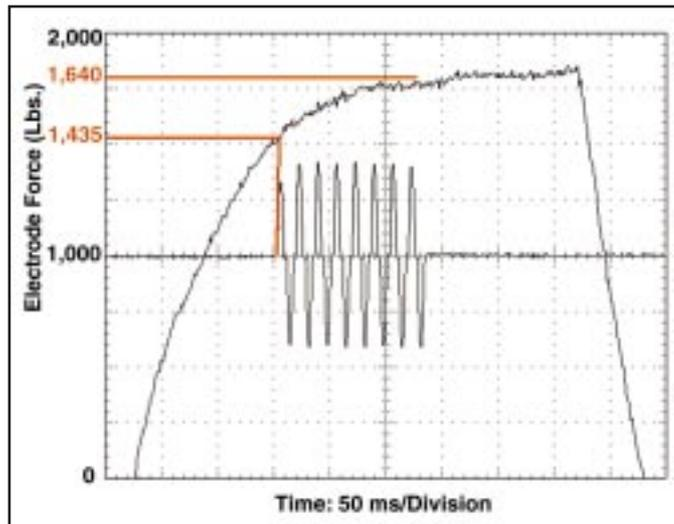

Figure 2
1. The welding machine was fired too soon. Expulsion usually occurs because too little time is allowed for the required welding force between the welding electrodes to be achieved *before* welding current starts to flow (see **Figure 2**). In this case, the electrodes close “live” and act like an arc welding machine.